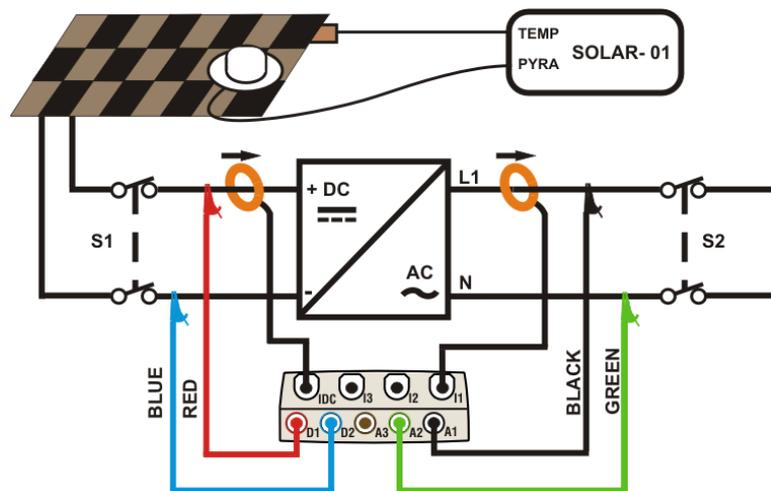

Fig. 248: Connecting the instrument in a PV-1 system with SOLAR-01
2. Connect inputs **D1** and **D2** to the positive and negative string output pole respectively. Connect inputs **A1** and **A2** to the phase and neutral conductors, respecting the colors as shown in Fig. 248
3. Connect the DC current clamp to the positive string output conductor **by respecting the direction of the arrow** on the clamp itself as indicated in Fig. 248. **Check the status of internal batteries of the DC clamp after the connection to the installation**
4. Connect the AC current clamp to the Phase L1 conductor **by respecting the direction of the arrow** on the clamp itself as indicated in Fig. 248. Connect the output of the clamp to the **I1** input of the instrument.